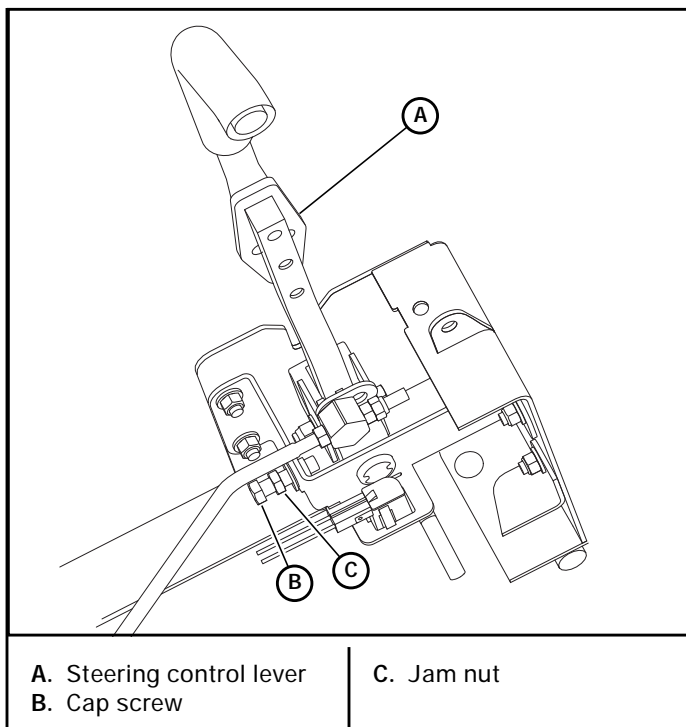

Figure 4-5
5. On the side that is going the slowest, locate the lower cap screw and jam nut on the back side of the steering control lever bracket. Figure 4-5
14. On the side that is going the fastest, locate the lower cap screw and jam nut on the back side of the steering control lever bracket. Figure 4-5